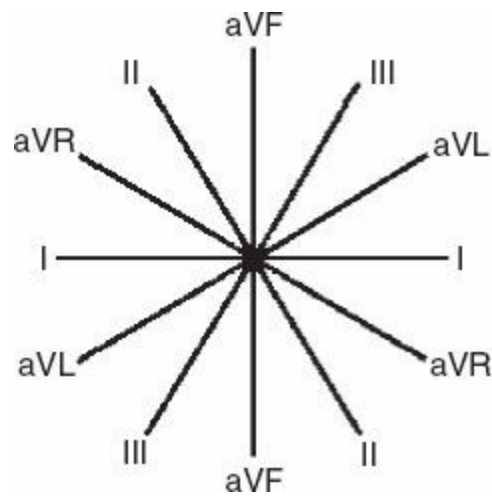

FIGURE 10.7 The six leads: I, II, III, aVR, aVF, and aVL.
Standard lead system ECG recording requires the connection of five electrodes to the patient: right arm (RA), left arm (LA), left leg (LL), right leg (RL), and chest (C). Through a lead selector switch, inputs of differential amplifiers are connected to these five electrodes. Different waveforms are displayed across different pairs of electrodes. Each one of these waveforms called lead displays unique information that cannot be obtained by any other leads. As shown in Fig. 10.7, these six leads are I, II, III, aVR, aVF, and aVL. Each one of the leads could provide information about a different heart disease.